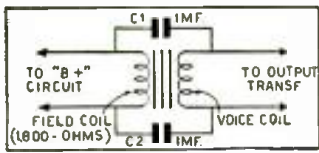

Fig. 5, above. Tone-improving Circuit.
**IMPROVING TONE.** The circuit of Fig. 5 may be used to improve the tone of sets using dynamic speakers. The condensers will have to be experimented with in order to obtain satisfactory results, but the value indicated will be approximately correct. This hookup was used on a receiver using a single 42 output tube.